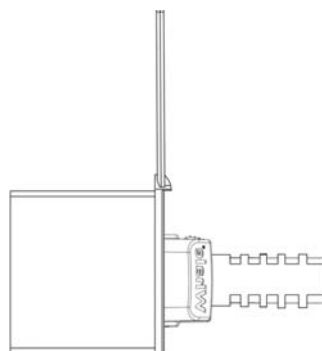

Fig. 2
- Fig. 2 Connecting EP1622 & EP1322 to Truma Crystal II Socket